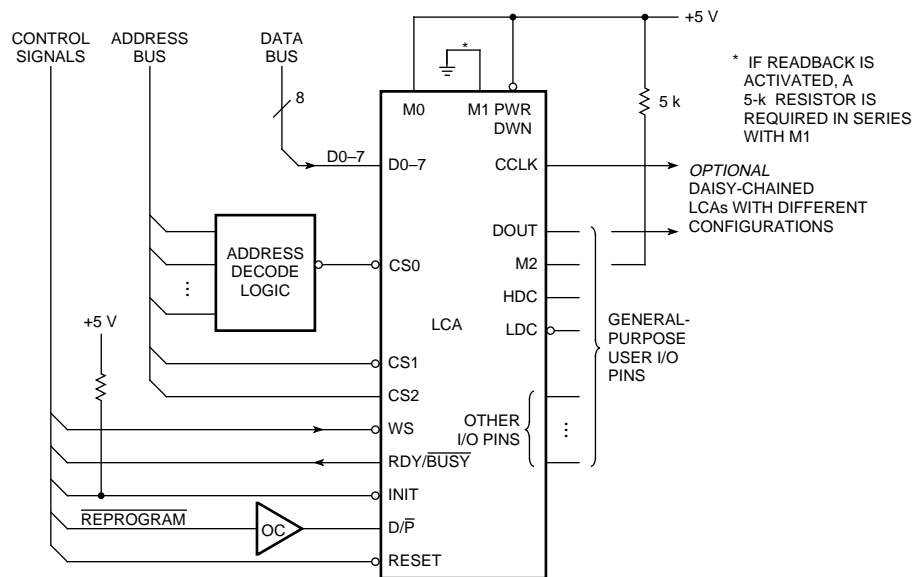

Figure 23. Peripheral Mode.
Peripheral mode provides a simplified interface through which the device may be loaded byte-wide, as a processor peripheral. Figure 23 shows the peripheral mode connections. Processor write cycles are decoded from the common assertion of the active low Write Strobe (WS), and two active low and one active high Chip Selects (CS0, CS1, CS2). The LCA device generates a configuration clock from the internal timing generator and serializes the parallel input data for internal framing or for succeeding slaves on Data Out (DOUT). A output High on READY/BUSY pin indicates the completion of loading for each byte when the input register is ready for a new byte. As with Master modes, Peripheral mode may also be used as a lead device for a daisy-chain of slave devices.